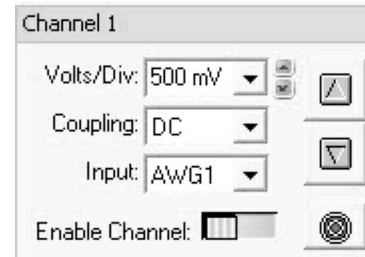

Fig. 6—Scope channel screen
2. Set up Channel 1 to 500 mV, DC coupling, and AWG1 input. (AWG1 is both the Arbitrary Waveform Generator and also the Function Generator.) See Fig. 6.